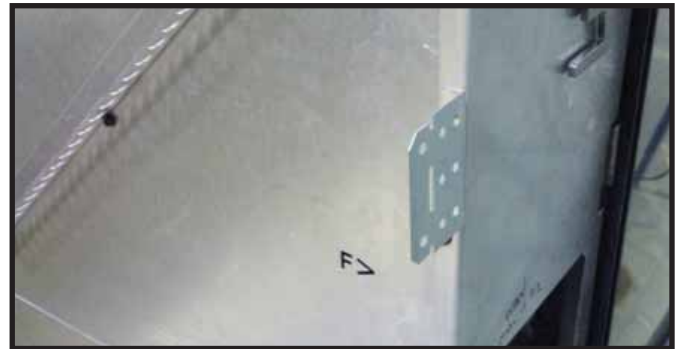

Figure 9.4 Nailing Tab Bent Out for Installation
- Bend out side nailing tabs 90 degrees. See Figure 9.4.